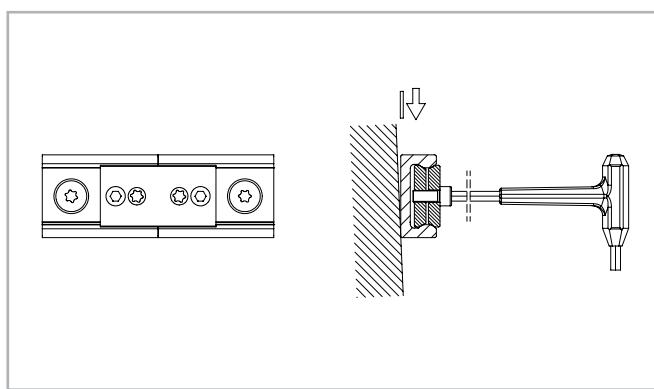

Fig. 81
(3) Place the alignment fixture on the rail joint and tighten both set screws uniformly, until the raceways are aligned (see fig. 81).
(4) After the previous step (3) it must be checked if both rail backs lie evenly on the mounting surface. If a gap has formed there, this must be shimmed.